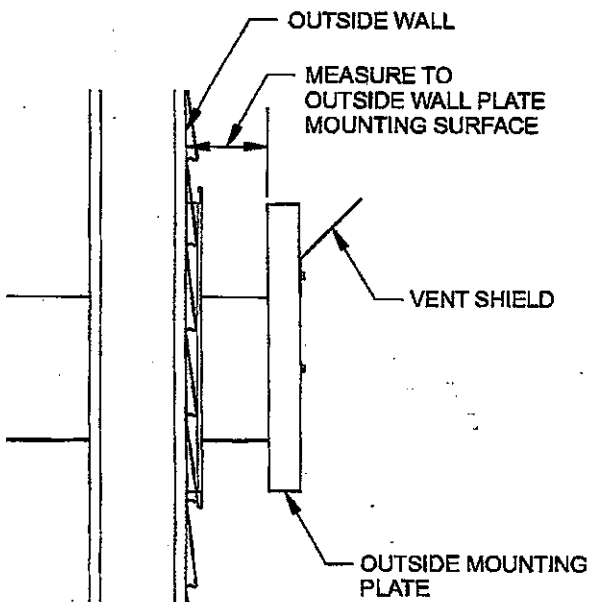

Figure 3A
5. Attach the inlet tube to the outside mounting plate. Align tinnerman clips on the tabs of the air inlet tube to the holes on outside mounting plate, and fix with (2) #10 x 1/2" screws.
6. Insert the 6 5/8" (168mm) diameter tube with outside mounting plate attached through hole in wall. Connect to collar on fireplace or rigid vent system. Measure between wall or vent cap extension and outside mounting plate (Figures 3A and 3B).